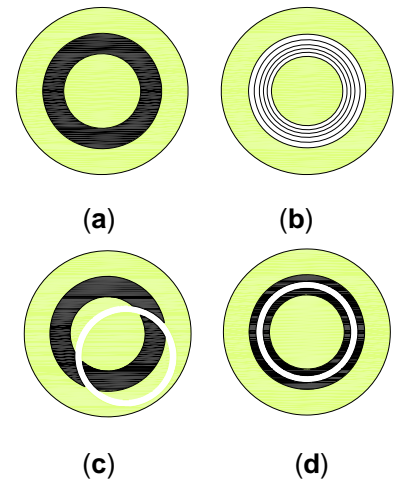

Fig. 20
- d. Observe from the telescope. The bright ring and dark ring should be coincided with each other as shown in **Fig. 20 (d)**.
- f. If the bright ring is still obscure as in **Fig. 20 (b)**, adjust the condenser focusing knob.
- g. If the two ring images are not coincided as shown in **Fig. 20 (c)**, adjust the two centering screws on the phase contrast condenser.